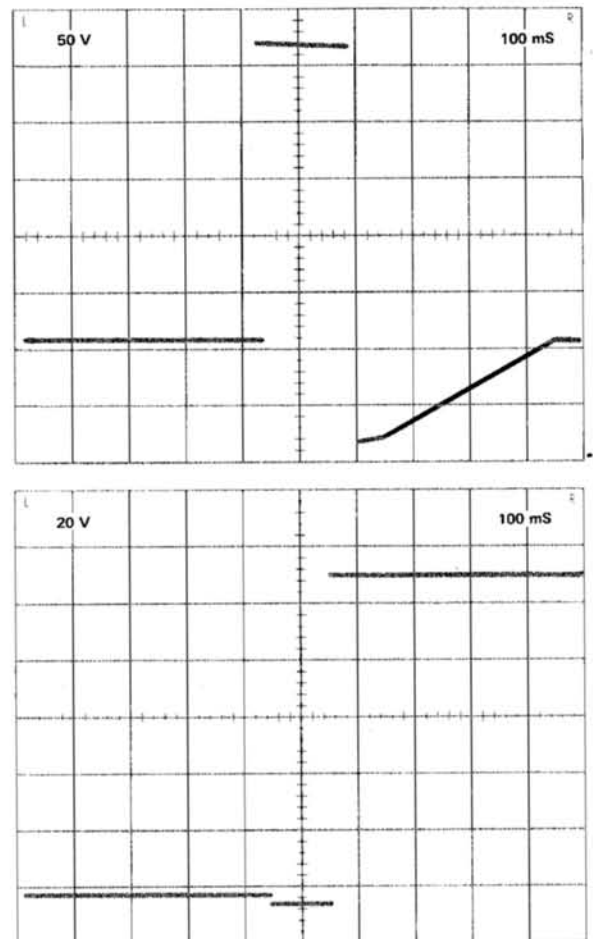

Fig. 2-11(A). Erase waveform (Bi-stable Test Point), (B). Transfer waveform (High speed test point).
p. CHECK—Test oscilloscope display for an erase waveform (see Fig. 2-11).